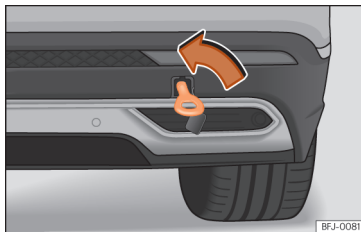

Fig. 101 Right side of the rear bumper: towline anchorage screwed in.
- Screw the towing eye in the housing by turning it to the maximum **anticlockwise** » Fig. 101 » ❶. Use a suitable object that can completely and securely tighten the towing eye in its housing.